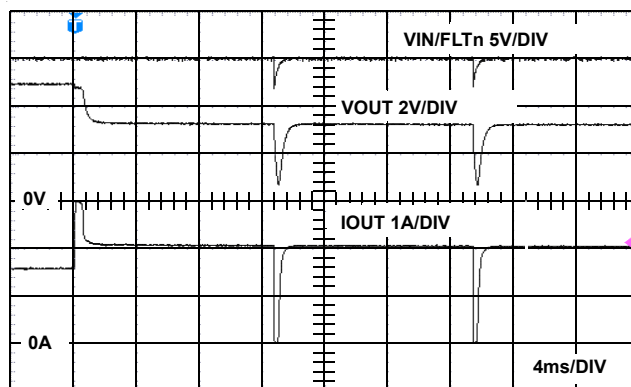

FIGURE 16. AUTO RESET OPERATION
Initially as voltage is applied to VIN, the pull up resistor (R_{pu}) provides for pull up to VIN on both the ENABLE pin asserting the output once $V_{IN} > 2.5V$ and on the FLTn pin. Once turned on and an overcurrent (OC) condition occurs the IC provides CR protection for 10ms and then the FLTn pin pulls low through R_{pu} and also pulling the ENABLE low thus resetting the device fault condition. At this time the R_{pu} charges the cap and the voltage on the ENABLE/FLTn node rises until the $ENABLE > 2.0$ and the output is asserted on once again. This automatic reset cycle will continue until the OC fault no longer exists on the output. After several seconds in this mode of operation the IC thermal protection invokes adjusting the timing of the on-off cycle to prevent excessive thermal dissipation in the power switch protecting itself and surrounding circuitry. See Figure 16 for operation waveform.